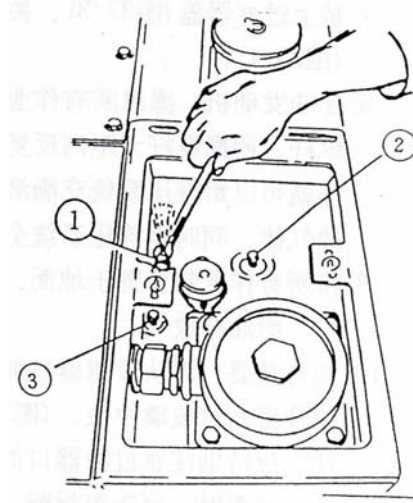
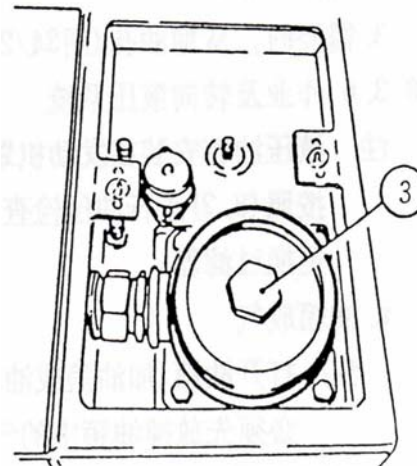
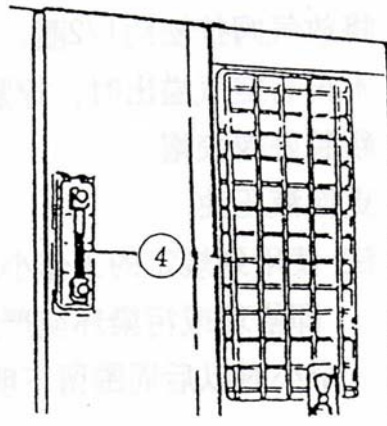

Fig. 35
Fig. 37
Fig. 38
2. Remove the rubber cap on the exhaust valve (Fig. 35/1);
3. Bleed the oil tank (Fig. 35).
6. Open the filter (Fig.37/3) and fill up specified hydraulic oil and the oil level shall reach the middle of the observing glass (Fig. 38/4).
7. Refit the filter cover (Fig.37/3) and close the exhaust valve (Fig.35/1).
10. If necessary, fill up oil to the observing glass through the filter opening. (Fig.38/4).
Note: Pay attention to proper sealing of the filter opening. Use new sealing ring, if necessary. Screw in filter cover (Fig.37/3) carefully in order to avoid damaging of the fine thread.
1. When the engine stopping and operating device falling onto ground, oil level must be at the middle of inspection glass. (Fig. 38/4)